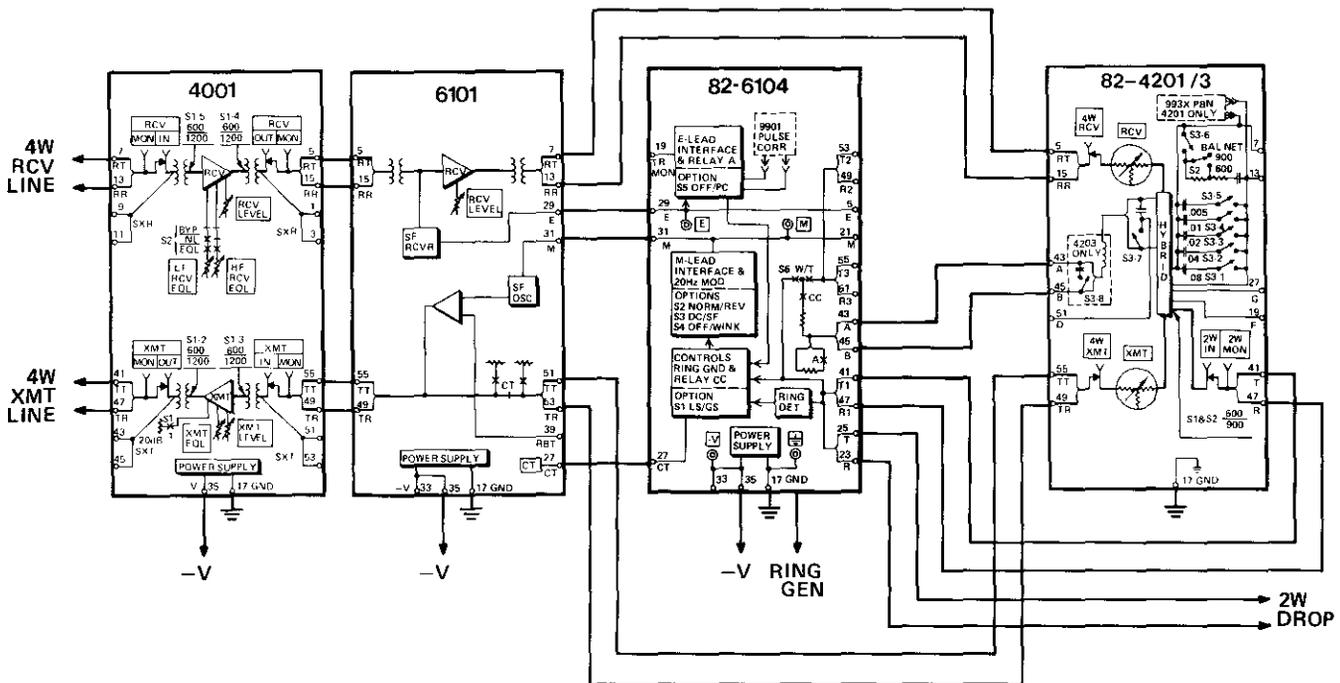

figure 4. Connections required for application in a Tellabs 260 or 261 System
3.05 One of the most common applications of the 6104 involves its use in an SF signaling and terminating system with a 4001 Line Amp and a 4201 or 4203 Term Set interfacing the station. Figure 4 shows the connections required in this application. Note that if the 6104 is used in combination with these modules in a Tellabs 260 or 261 Signaling and Terminating System, all intermodule connections are factory wired and external connections are simplified by the use of terminal strips or blocks. Refer to the 260 or 261 System Practice for further information.